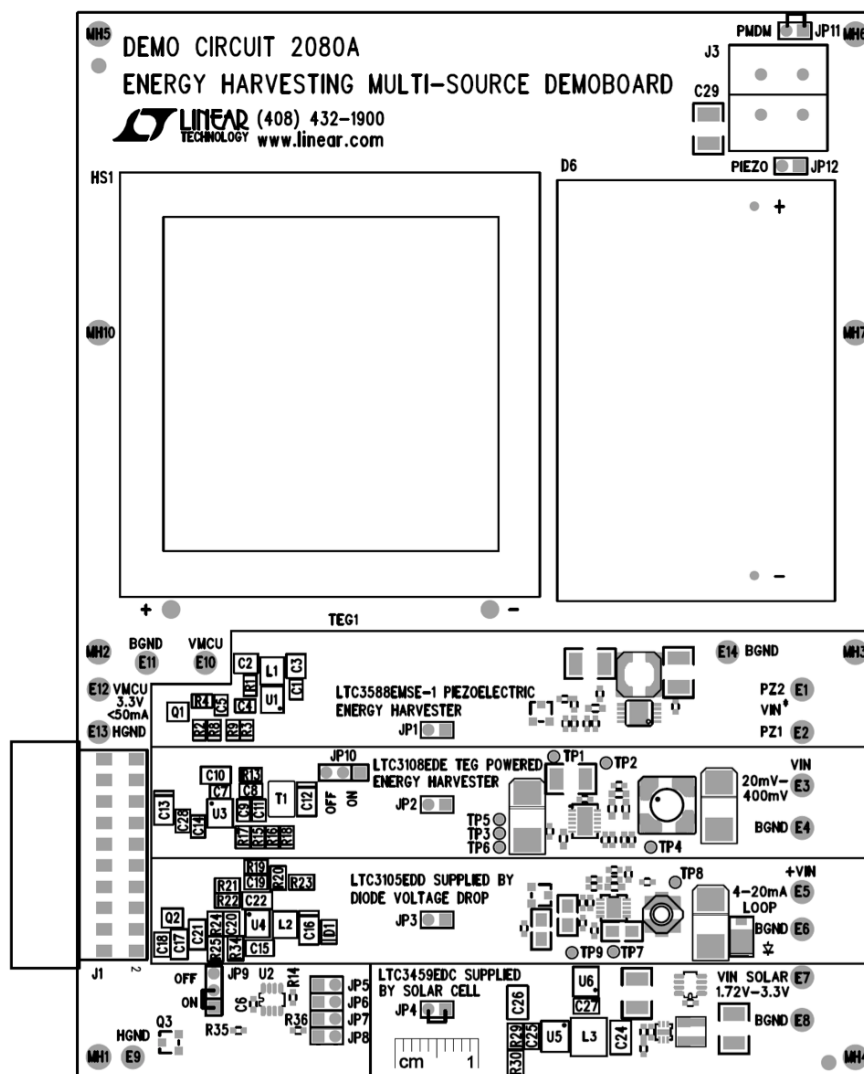

Figure 5a. DC2080A Top Assembly Drawing
18. Reset the Jumpers as shown in Figure 5a.